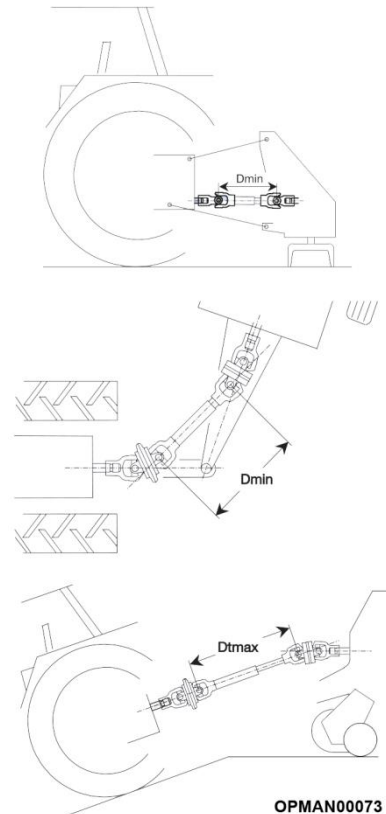

Figure 3.6 – Max/min Input Shaft Overlap
Place the tractor/machine in the position so the two halves of the shafts are at the minimum distance between the two ends; see Figure 3.6. At this point, verify any interference of the outer tube with the yoke inner tube and establish how much the outer tube needs to be shortened.
On trailed machines, the minimum distance "Dmin" (see Figure 3.6), occurs between the joints during steering. Verify that in the condition of maximum extension "Dmax", which generally occurs when the machine is aligned going slowly downslope, the coupling between the two tubes is still sufficient.
- 3.3.3.1 With the input PTO shaft attached, place the tractor and machine in the tightest corner possible, Dmax (see Figure 3.6).
- 3.3.4.6 Check the length of the driveshaft at the minimum and maximum positions of the machine. See Figure 3.6 for guidance on Dmin/Dmax lengths.